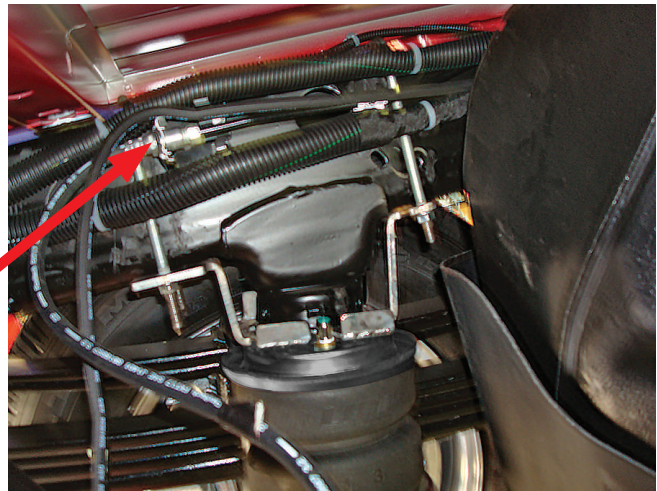

Fig. 10
3. Insert two U-bolts (H) onto the top of the frame and through the upper bracket mounting holes (Fig. 10).
! THE DRIVER'S (LEFT) SIDE HAS A BRAKE LINE AND A WIRING HARNESS RUNNING ALONG THE INSIDE OF THE FRAME. MAKE SURE THE U-BOLT IS BETWEEN THESE ITEMS AND THE FRAME (DO NOT PINCH THESE ITEMS) (FIG. 10).